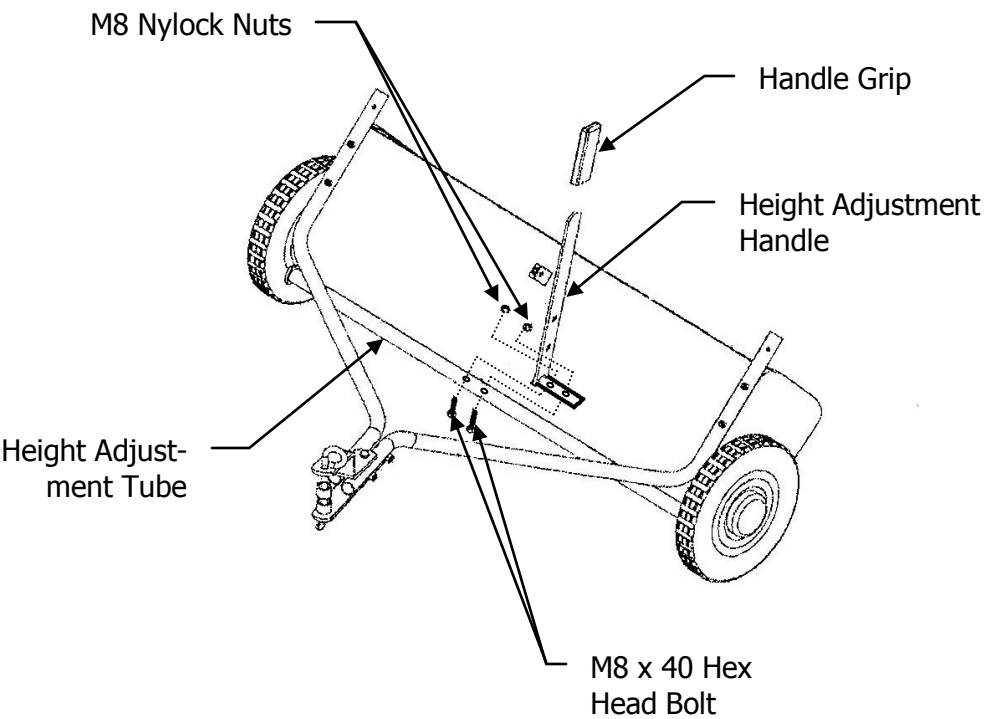

Figure 6
6. Attach the Height Adjustment Handle to the Height Adjustment Tube, using two M8x40 Hex Head Bolts and two M8 Nylock Nuts. Do not tighten yet. See Figure 6.